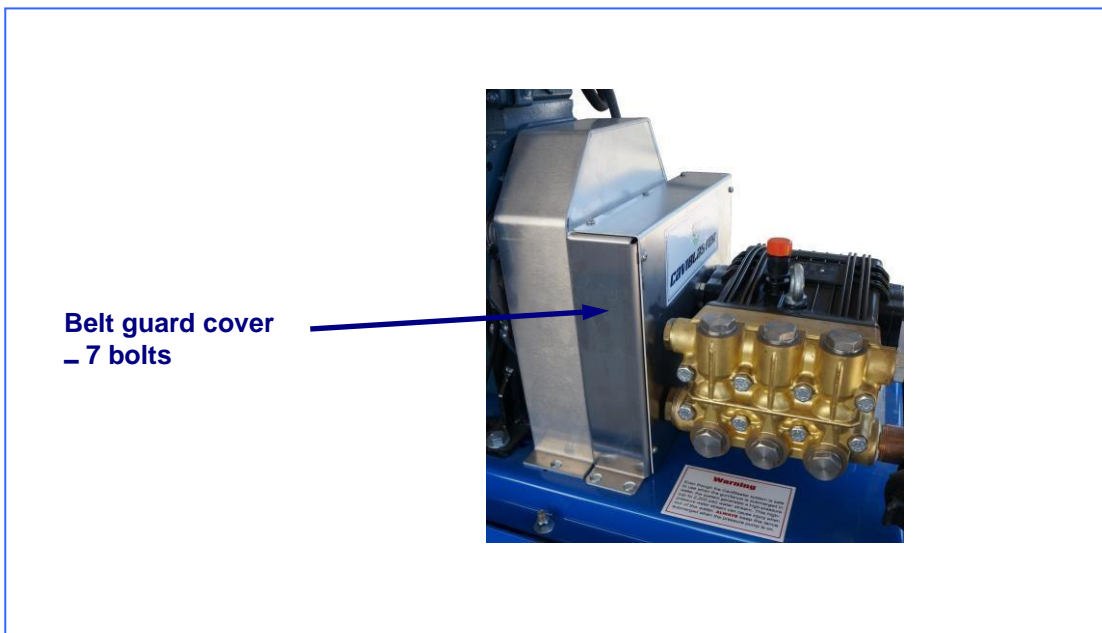

Figure 6.2 – Inspection / Belt tension.
1. Remove the belt cover (See Figure 6.2).